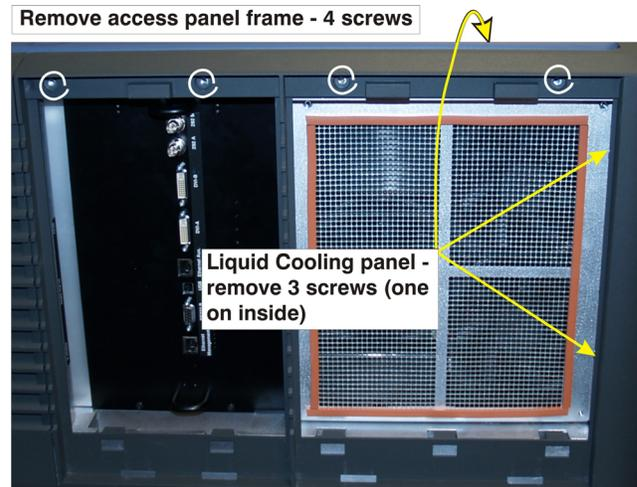

FIGURE 1-43 REMOVE LIQUID COOLING PANEL
5. Remove 3 screws (#2 Phillips) securing the liquid cooling panel. Swing the panel out and hang it on the screws located on the frame. See Figure 1-43.